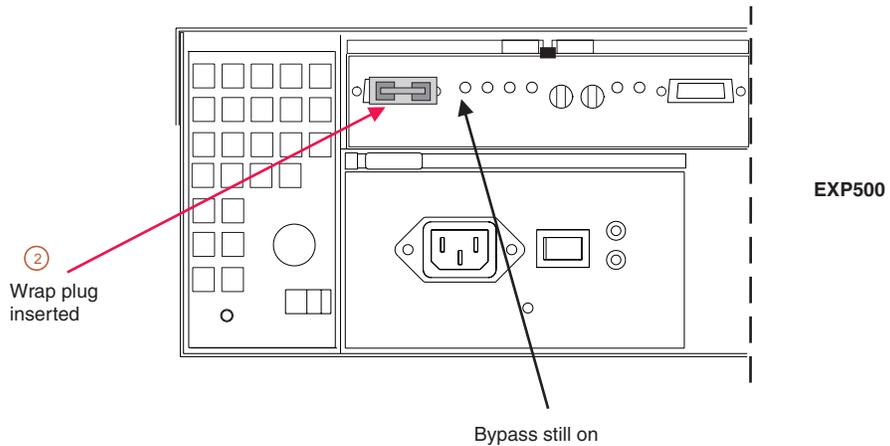

Figure 148. Insert Wrap Plug
2. Insert a wrap plug in the element from which you disconnected the cable. See Figure 148.